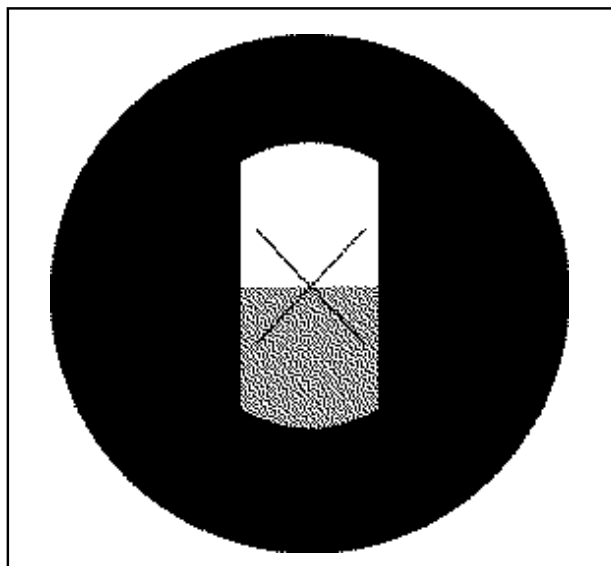

Figure 3a
9. Turn the adjustment control to center the shadow line to the crosshair. The shadow line must be perfectly centered to obtain an accurate reading (Figure 3a).
8. Insert the Allen wrench through the reticle access hole in the dispersion correction wheel. Adjust the reticle until the shadow line passes through the center of the crosshair (Figure 2 & Figure 3a).